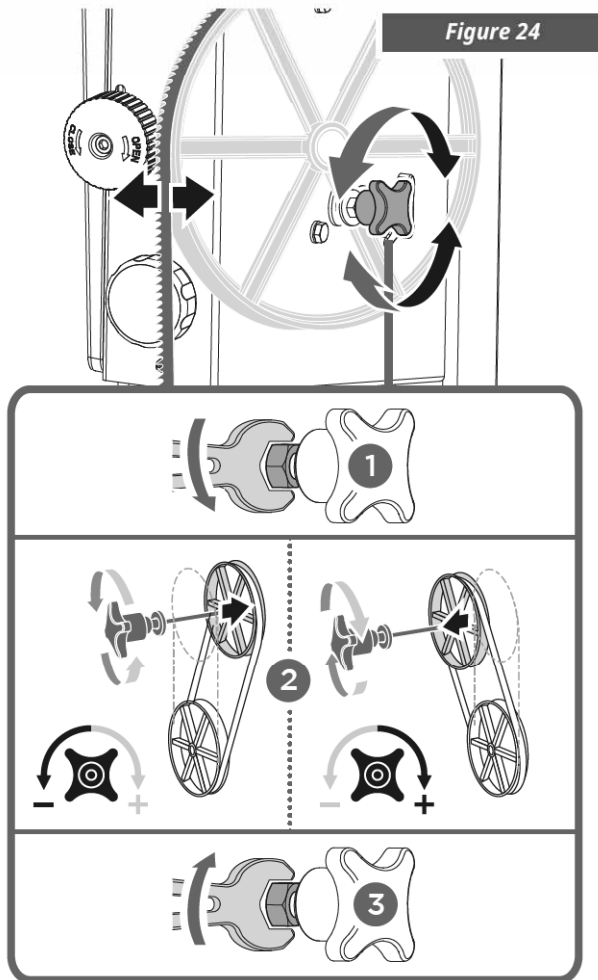

Figure 24
3. Tighten locking nut. (See Figure 24)